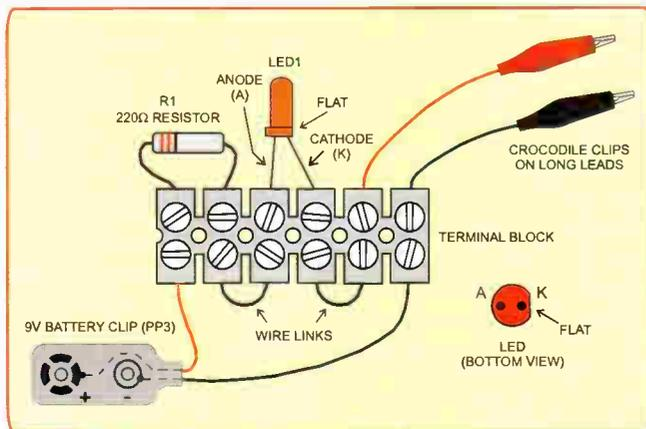

Fig.1.4: Assembly of the Circuit Tester
**Y**OU will find this simple project a handy way of checking the electrical properties of some components and circuits that you will be using when assembling projects on Protobloc. However, instead of using a Protobloc for this project, it has been assembled on a 6-way length of screw-terminal block, as shown in Fig.1.4. Its circuit diagram is shown in Fig.1.5.
Follow the wiring of the terminal block as shown in Fig.1.4, making sure that LED1 is connected so that its anode (A) lead is in the position shown on the terminal block. The other lead is known as the cathode (K). Usually, the anode is the slightly longer lead.